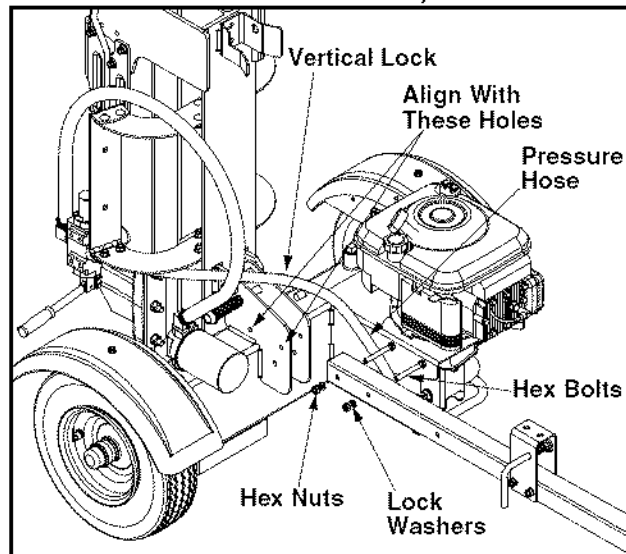
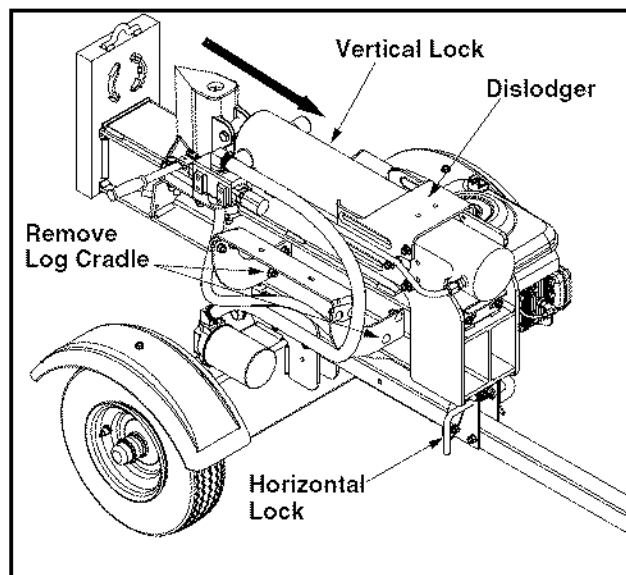

Figure 2
Figure 3
Attaching The Tongue (See Figure 2)
- The log splitter is shipped with the beam in the vertical position. Pull out the vertical lock rod, rotate it back, and pivot the beam to the horizontal position until it locks. See Figure 2 & Figure 3.
- Disconnect the dislodger from the beam weld bracket by removing the six hex screws and flat washers. See Figure 3.